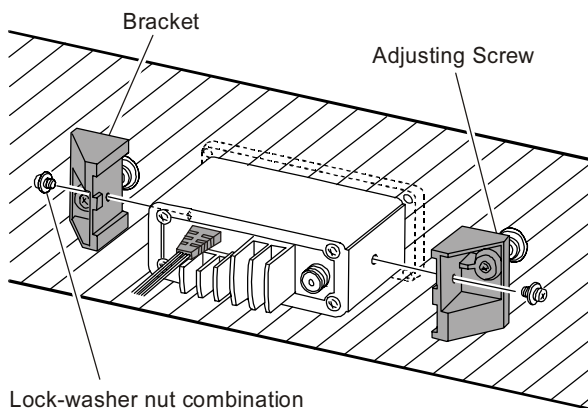

Figure 2. MMB-84 Flush Mount Installation
4. Fasten the brackets to the sides of the transceiver with the lock washer nut combination, so that the mounting screw base faces the mounting surface (see Figure 2).